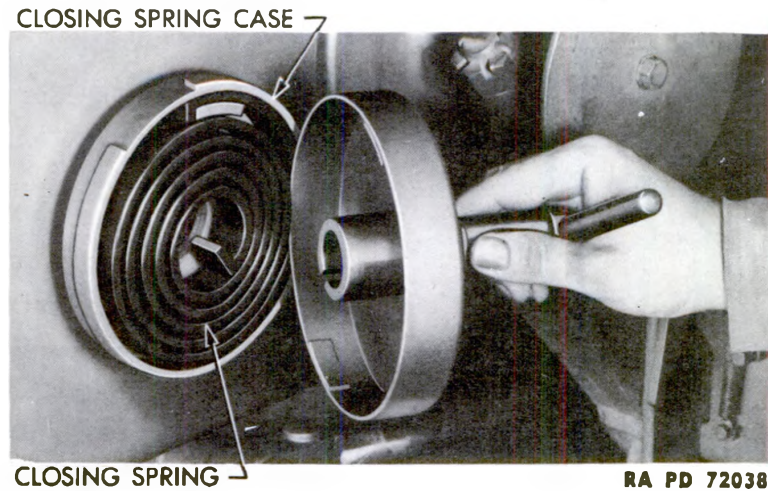

Figure 146 – Closing Spring, Case, and Cover – Disassembled
with the pronged end of the wrench. Force the closing spring case cover inwardly to disengage the bayonet connection on the inside of the rim of the cover and on the outside of the rim of the case (fig. 145). Permit the cover to rotate counterclockwise under the action of the spring, taking care to prevent the tension from being released too violently. Remove the case cover and wrench (fig. 146). Remove the closing spring from the case.
b. Assembly. With the closing spring case on the closing spring case bracket, place the closing spring in the case (fig. 146). Fit the closing spring case cover over the case and spring. Insert the closing